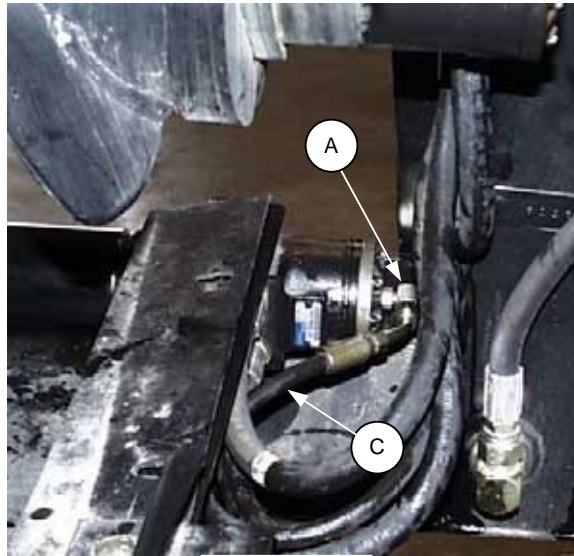

FIGURE 1
1. Install 90° elbow (A) in case drain port of motor, as shown in figure 1. Attach case drain hose (C) from kit (hose end not exactly as shown) to elbow and route with feed draper drive hoses. Use cable ties to secure case drain hose to draper drive hoses and route up to combine adapter valve block.